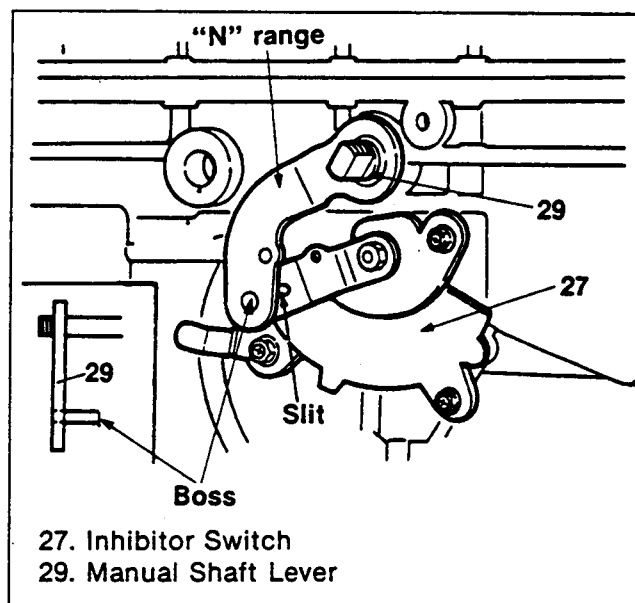

Figure 240. Inhibitor Switch Installation (2)
- Insert the slit of the inhibitor switch between the manual shaft lever bosses (figure 240).